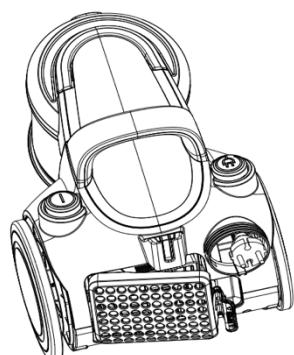

Fig.10
- 1) As in fig.10, press the outlet lock to open the outlet board.